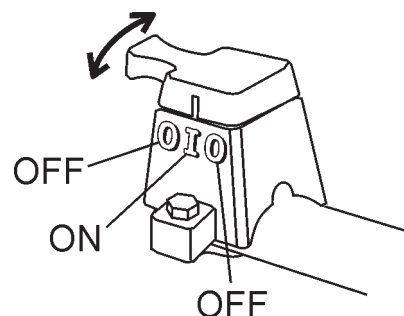

Figure 31. Engine Shutdown Switch (Handlebar)
2. Ensure the engine **Shutdown switch** on the handlebar and the engine **ON/OFF switch** on the engine are both in the **OFF** position to avoid accidental starting. (Figures 31 and 32)
The Engine Shutdown Switch located on the handlebar (Figure 31) serves both as an **Emergency Engine Shut-Off** and as the **primary Shutdown switch**. This allows the operator to shutdown the saw safely away from moving parts.
Toggle the **engine Shutdown switch** located on the handlebars (Figure 31) in **EITHER DIRECTION** to the **"OFF"** position.